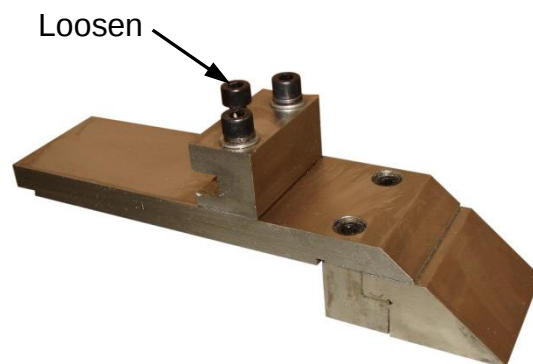

figure 22
1. Remove one of the fingers by loosening the capscrew as indicated in (fig. 22) and removing it from the front guide. Use an 8mm hex wrench.